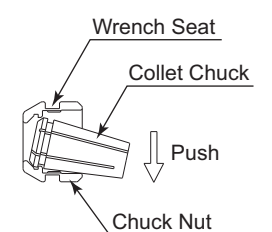
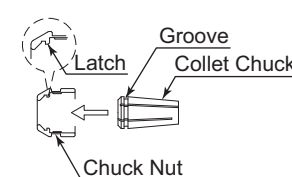
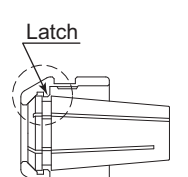

Fig. 5
Fig. 6
Fig. 7
- ② The collet chuck and chuck nut are secured by a groove in the collet chuck and a flange in the chuck nut. To remove the collet chuck hold the chuck nut in one hand and push diagonally down on the collet chuck. The collet chuck should be released. (Fig. 5)
- ③ To install the collet chuck, hold the collet chuck at a slight angle, and insert it into the chuck nut. (Fig. 6) Press the collet chuck in the chuck nut by positioning the collet chuck in the chuck nut and pressing down on flat surface (Fig. 5). Be sure to fully engage the latch inside the chuck nut into the groove on the collet chucks outer circumference area. (Fig. 7)